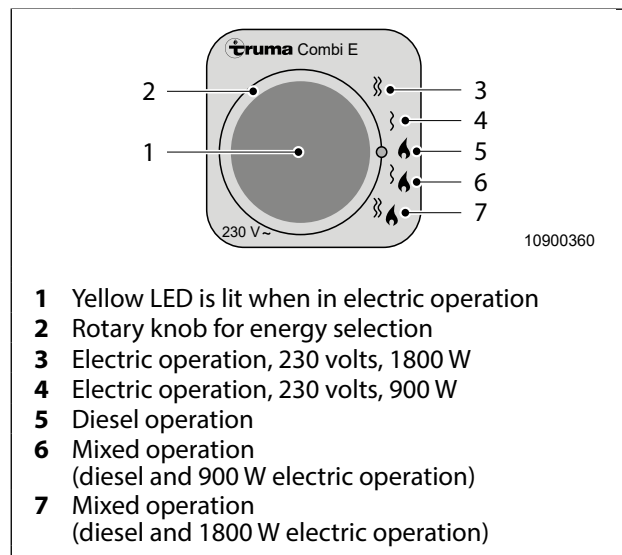

Fig. 59 CP E Classic energy selector switch
1. Turn the rotary knob (Fig. 59, item 2) to position 3 (1800 W) or 4 (900 W). The yellow LED (Fig. 59, item 1) signals electric operation with 230 volts.
1. Turn the rotary knob (Fig. 59, item 2) to position 5.
1. Turn the rotary knob (Fig. 59, item 2) to position 6 or 7.